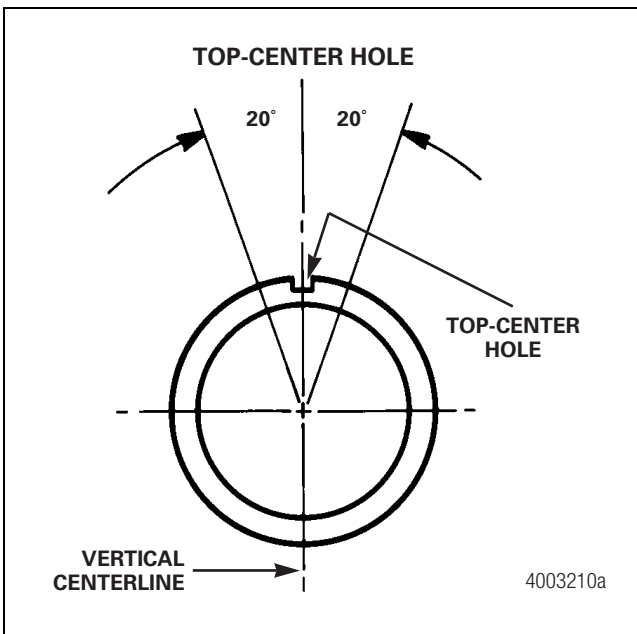

Figure 6.8
- **Top-center hole:** The top-center hole must be within 20 degrees of the axle vertical centerline. Figure 6.8.